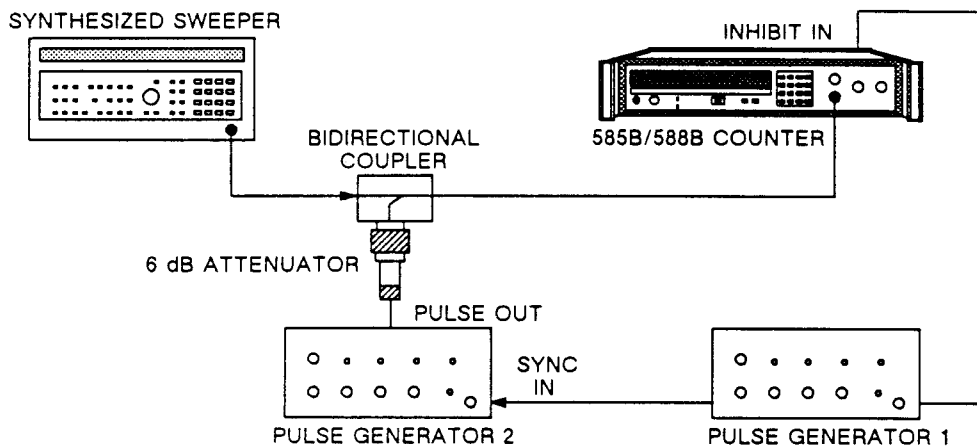

Figure 8-16. Band 1 Maximum Video Test Setup.
1. Connect equipment as shown in Figure 8-16 and turn equipment on.